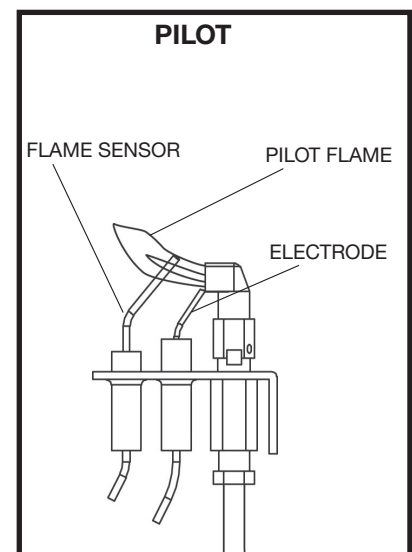

Figure 69: Pilot assembly.
- b) Check the pilot system for proper flame size and operation. Clean pilot free of soot, dust or any other deposits (See Figure 69).